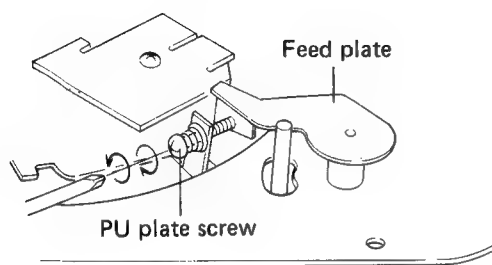

Fig. 10
1. If the tonearm returns too early, screw the PU plate screw outwards (see Fig. 10).